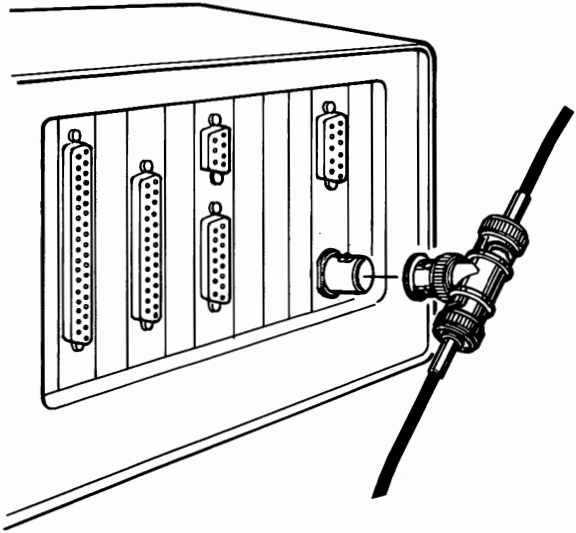

Figure 2-12. Connect the BNC T-adapter to the XC 24 Network Access Board.
- Look at Fig. 2-12 to locate the BNC connector on the XC 24 Network Access Board.